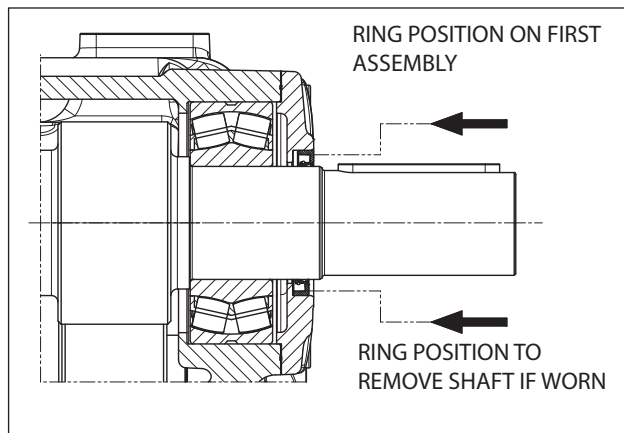

Fig. 118
Before proceeding with the assembly of the radial seal ring, verify the condition of the seal lip. If it is necessary to replace it, position the new ring as shown in Fig. 118.
**If the PTO shaft shows diameter wear corresponding to the seal lip, then to avoid grinding you can position the ring as a second step as shown in Fig. 118.**